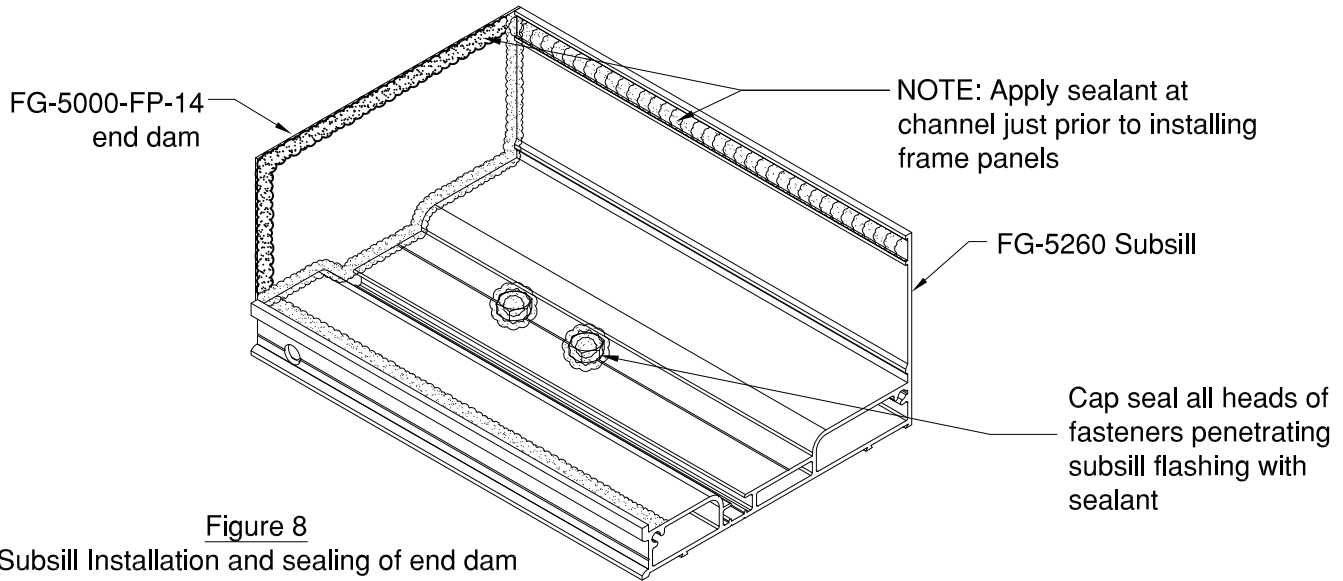

Figure 8
2.2.2 Wedge shims tightly between end dams and jamb substrate at each end prior to installing frame panels. These shims prevent the end dams from being dislodged while frame panels are being installed. Completely seal end dams as shown See Figure 8.